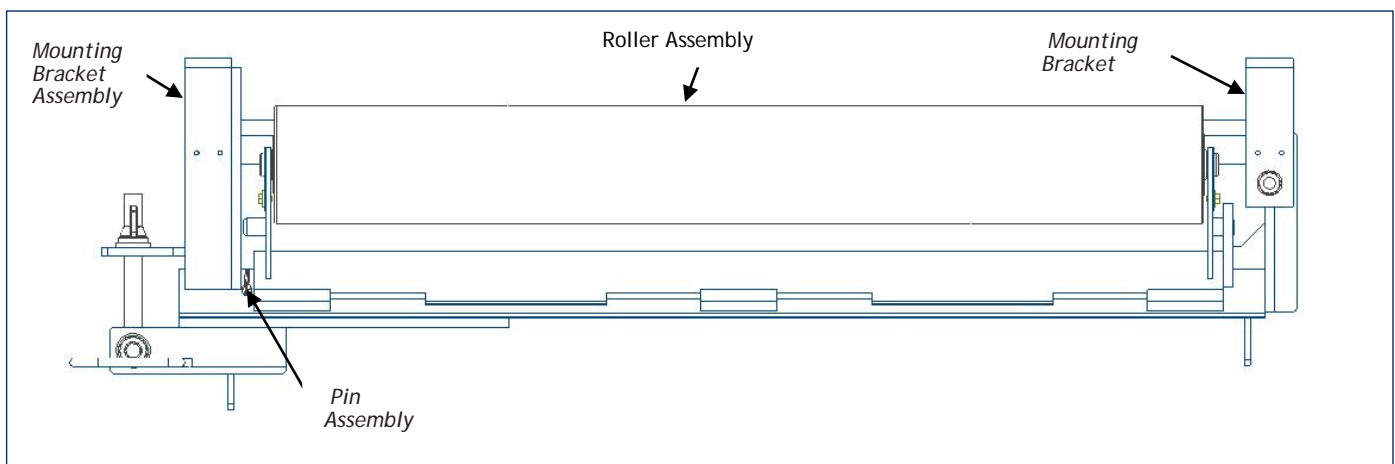
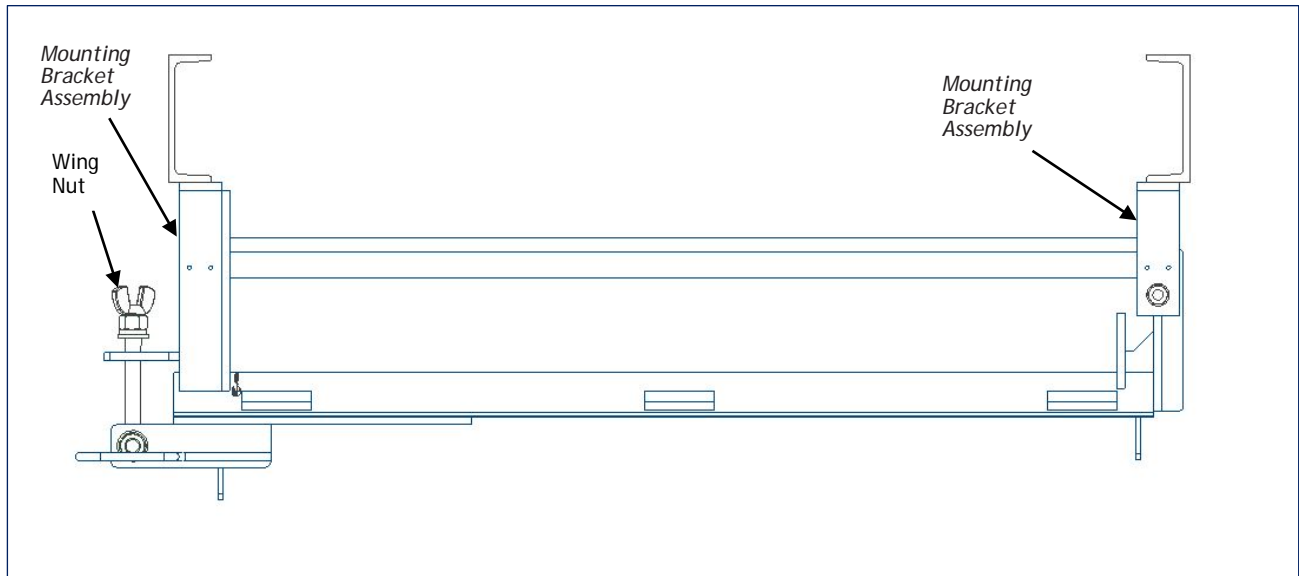
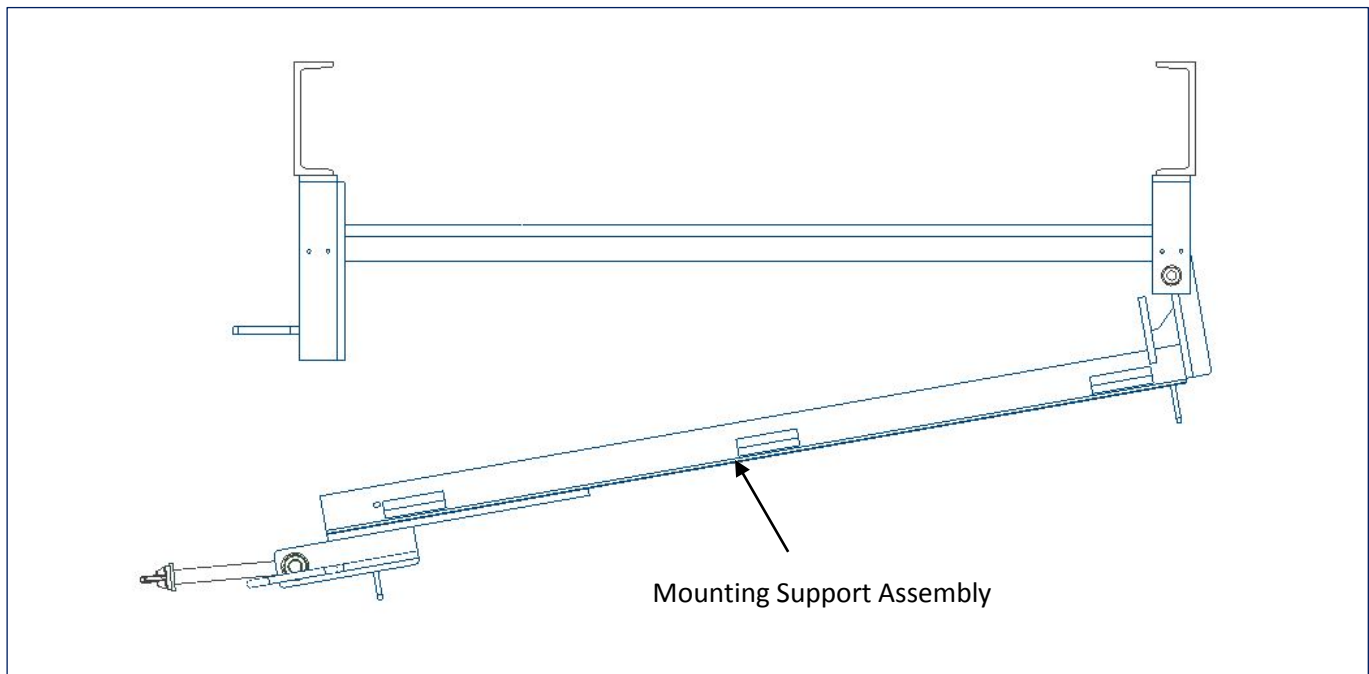

Figure 2
Figure 3
Figure 4
9. Remove roller assembly, See Figure 2. Then install mounting support assembly. See Figure 3. Ensure both mounting brackets are correctly aligned and meet operational requirements.
10. Install the Drop & Slide Return Roller by loosening the wing nut. See Figure 3. Then lower the mounting support assembly. See Figure 4